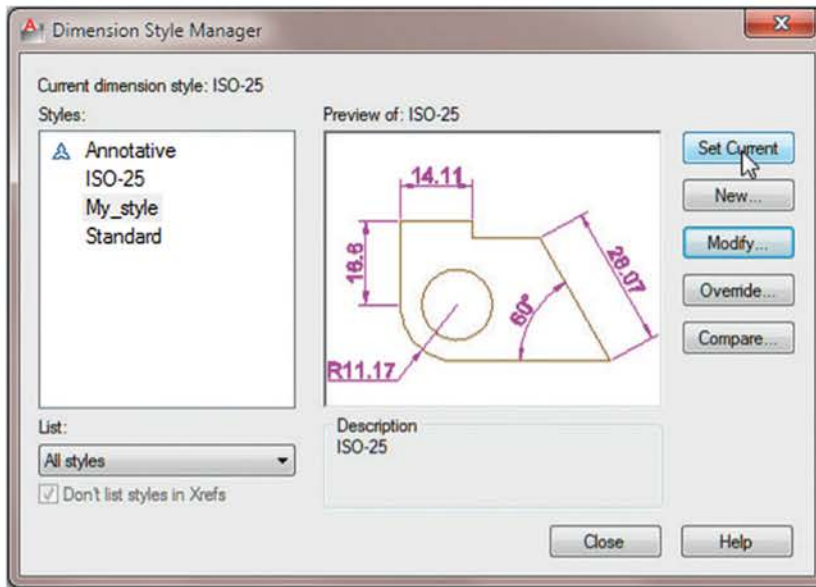

Fig. 5.14 The completed Dimension Style dialog
8. Enter a suitable name in the **New style name** field – in this example, this is **My_style**. Click the **Continue** button and the **Dimension Style Manager** appears (Fig. 5.14). This dialog now shows a preview of the **My_style** dimensions. Click the dialog's **Set Current** button, followed by another *click* on the **Close** button. See Fig. 5.14.